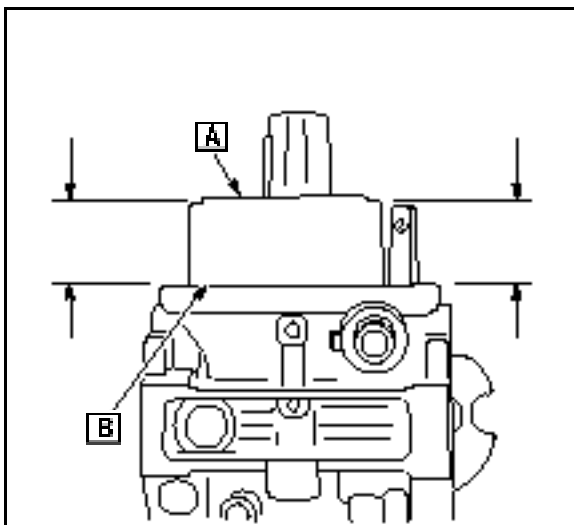

Fig. 91
18. Turn the carburetor body upside down. The float (A) should be parallel to the float bowl mounting surface (B) Fig. 91).